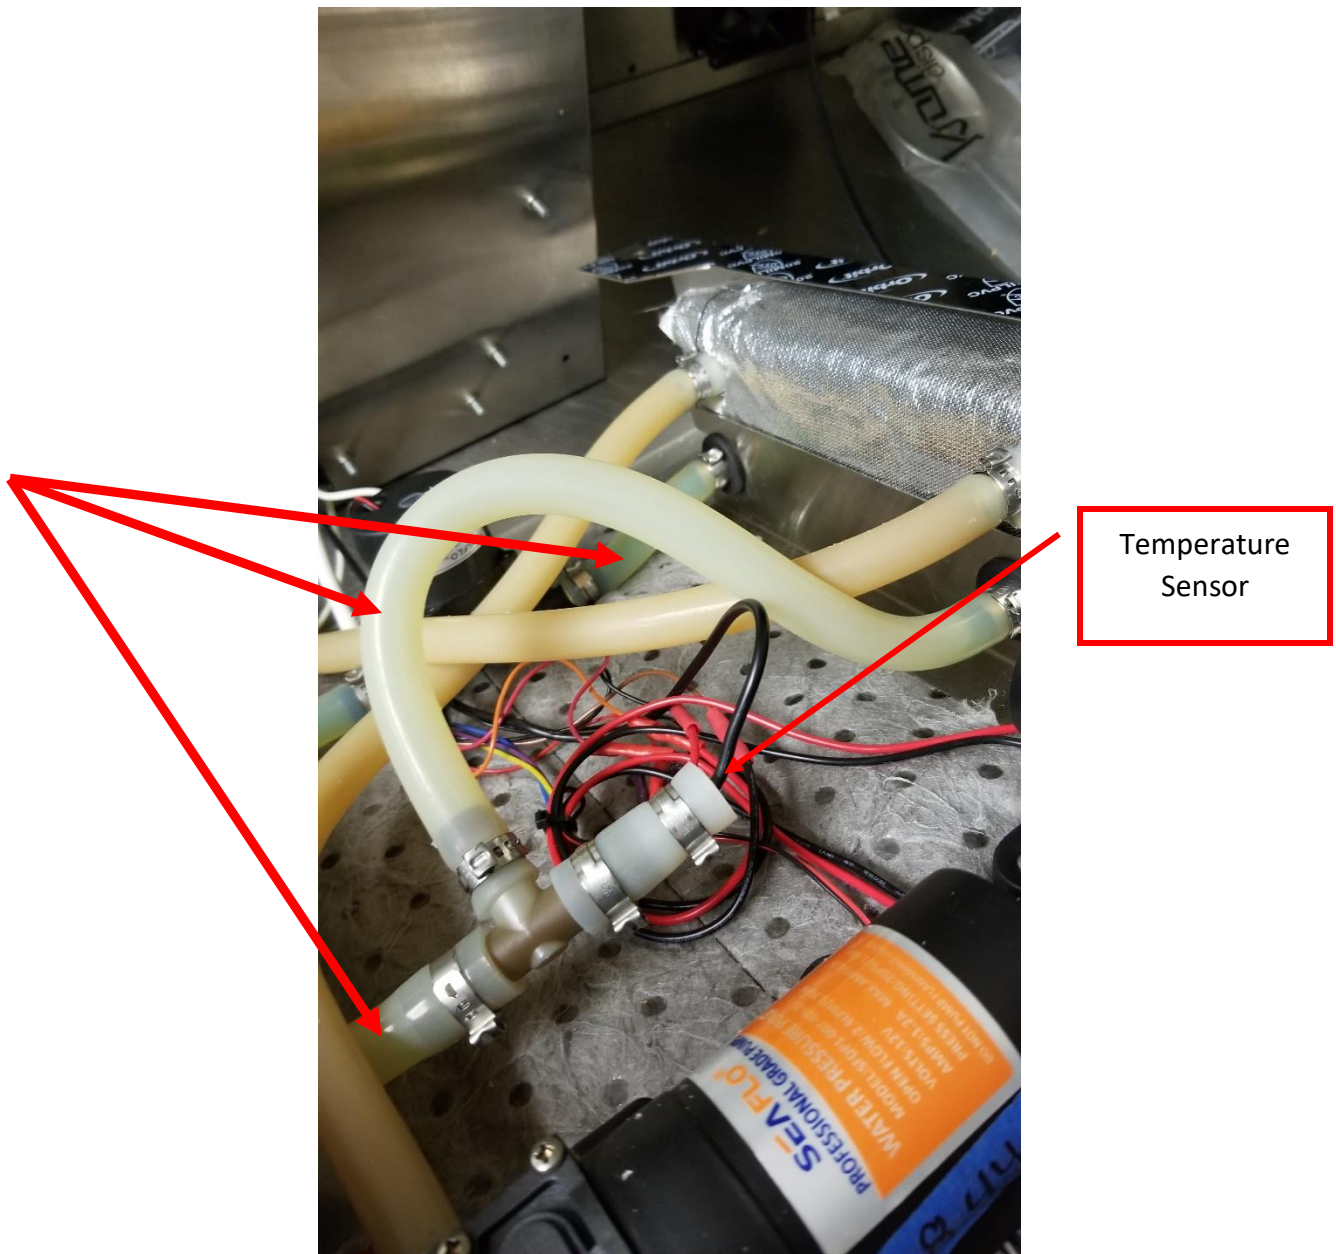

Figure 15
2. Gently massage the HEX loop glycol lines so that all of the air is moved out of both the heating unit and the heat exchanger and is visible at the HEX temperature sensor. See Figure 15.